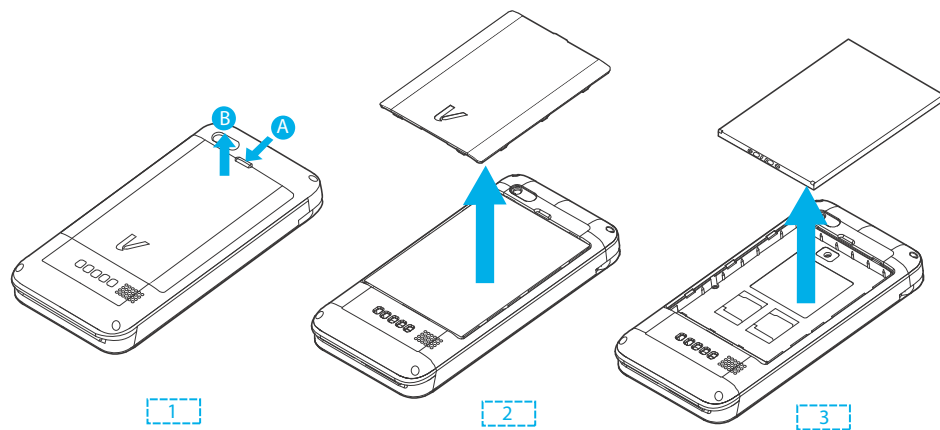

Figure 3 Removing the Battery Cover
- 3 Remove the battery cover as shown in Figure 3 step(1 and 2).
- 4 Carefully remove the battery as shown in Figure 3 step(3).